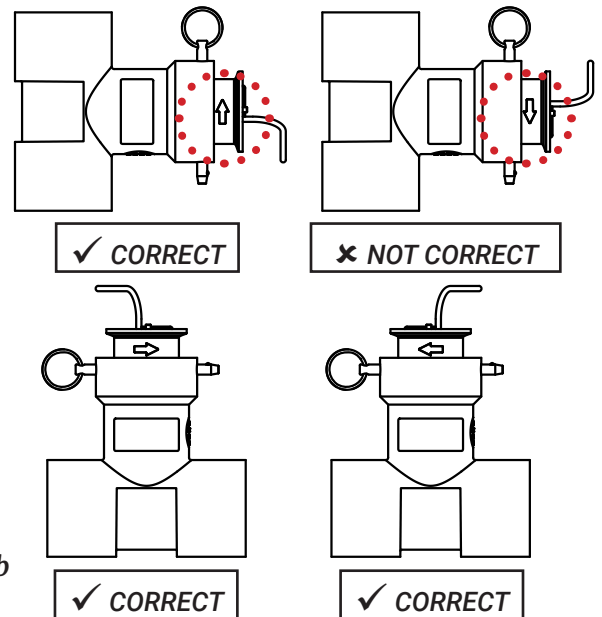

Figure 1b
- Flow direction of the QS200 should be horizontal or upward. **DO NOT** install flowmeter in a downward flow direction, to avoid partially filled pipes (see Figure 1b).